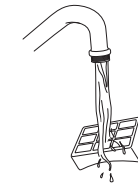

Fig. 24
- 4 With the dirty side down, rinse the HEPA filter with lukewarm tap water until the water runs clear. **(Fig. 24)**